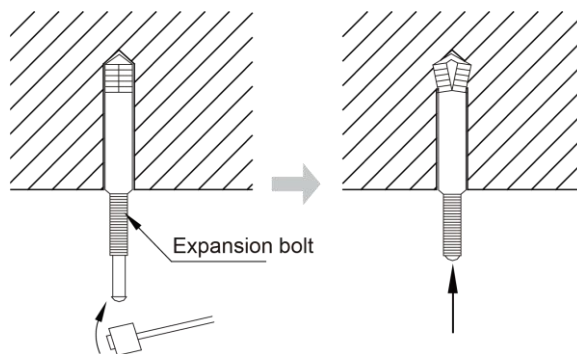

Fig 4.1.4
2) Insert the M10 expansion bolt into the hole and then knock the nail into the bolt, as shown in fig 4.1.4.